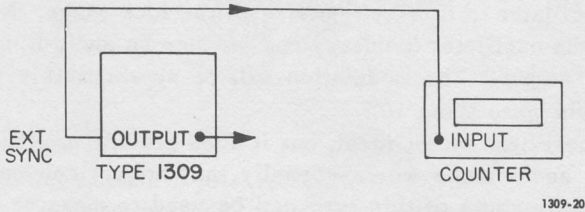

Figure 4-10. EXT SYNC signal triggers frequency counter.
4.7.2 COUNTER TRIGGER (Figure 4-10).